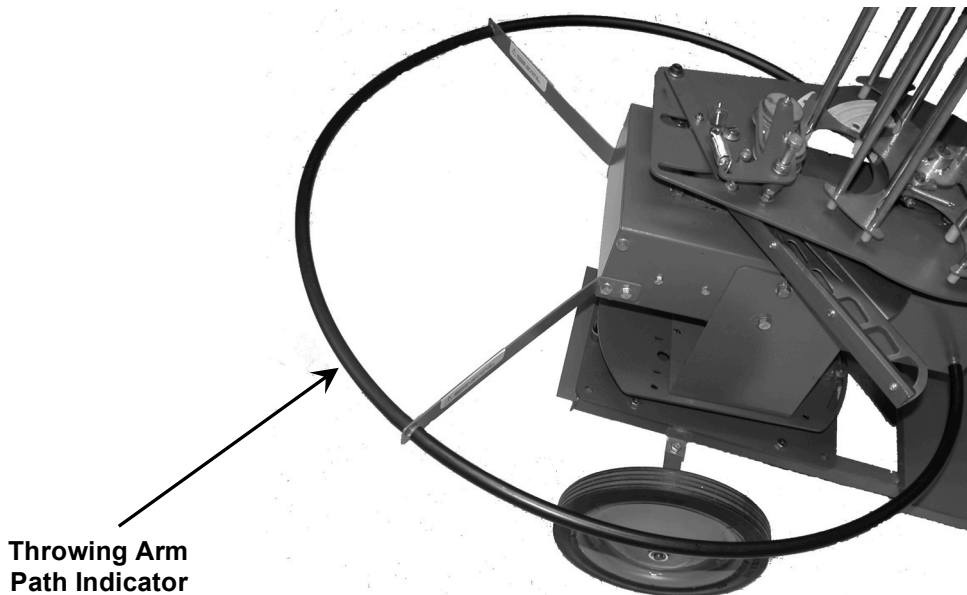

FIGURE 4
6. Keep hands and body outside the trap and throwing arm path indicator areas (FIGURE 4) while the trap is operating. This ring shows the throwing arm's path when throwing a target.